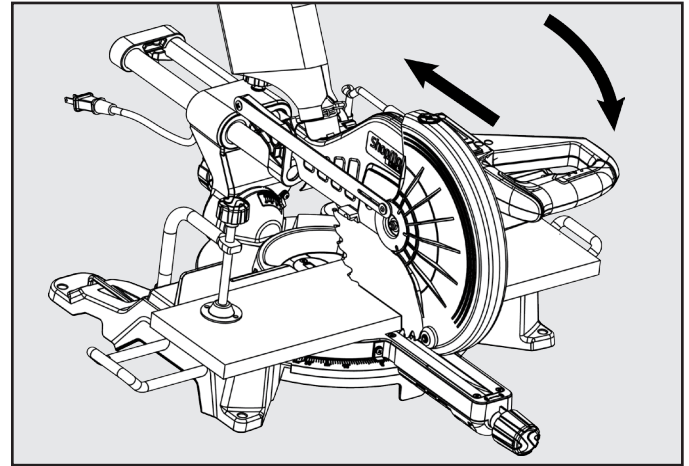

FIGURE 16
See Figure 16
- Place the workpiece flat on the miter table with one edge securely against the fence. If the board is warped, place the convex side against the fence. If the concave edge of a board is placed against the fence, the board could collapse on the blade at the end of the cut, jamming the blade. See Figure 16.